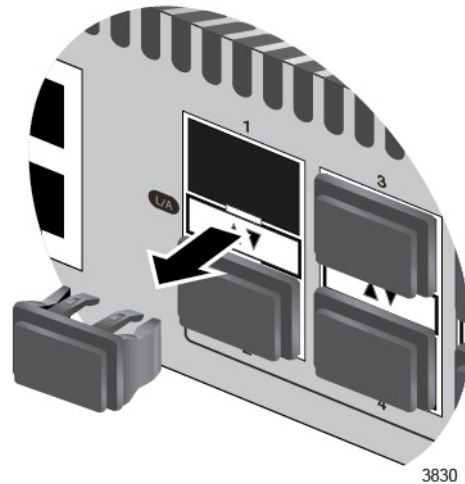

Figure 34. Removing the Dust Plug from a Transceiver Slot
1. Remove the dust plug from a transceiver slot on the switch. Refer to Figure 34.